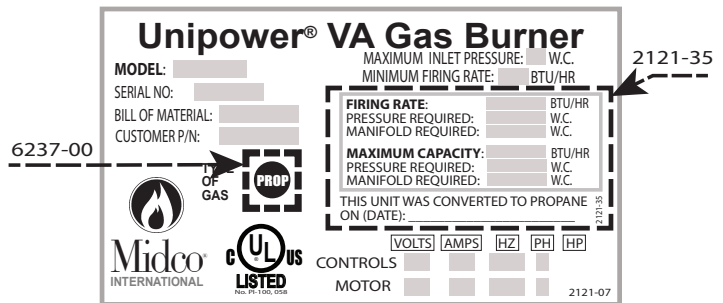

Figure 2 - Kit Label Placement - Covering Specs and Gas Type
6. Fill out tags/labels provided in conversion kit and attach/apply to burner and control box as shown in Figure 2.